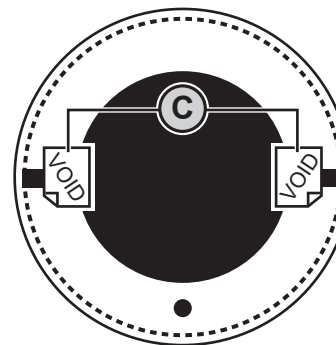

Figure 3
- Detach seals (C). "VOID" sign becomes visible on seals. Seals are destroyed (fig. 3). Destroyed seals may no longer be used.